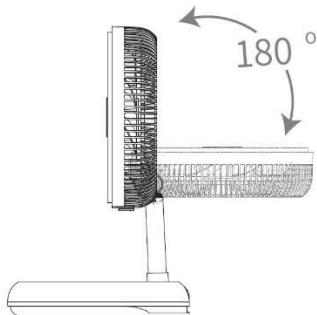

Figure 4
- The vertical swing angle of this fan can be adjusted manually by pulling up and down, maximum 180° (Figure 4).